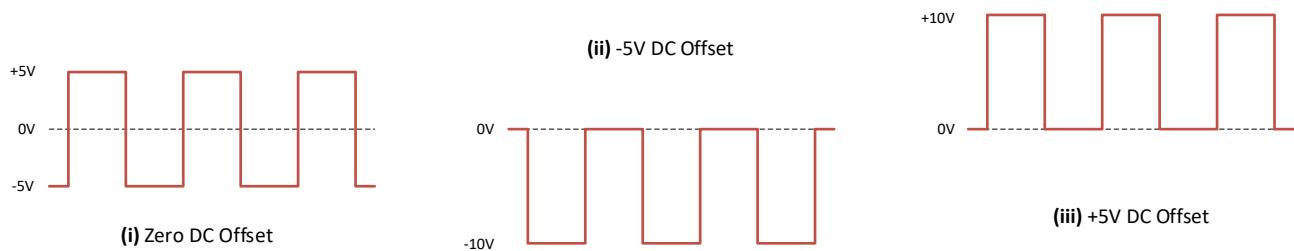

Figure 6.0: Square-wave waveforms showing effect of adding DC-Offset
2. Turn ON the Function Generator. For the input AC voltage source **V_s** of the circuit, set the Function Generator to a **Square-Wave** signal with the peak-voltage amplitude, **V_P = 5V** (that is, $\pm 5V$ around **0V** reference) as shown in **Figure 6.0 (i)**. Set the frequency, **f = 1 Hz**. **FG: Press Amplitude = 5 V_{pp}**
5. Use the DC-OFFSET control on the Function Generator to apply a “-5V” DC-Offset to the waveform so that it oscillates between **0V** and **-10V** as shown in **Figure 6.0 (ii)**. Observe the blinking of the LED(s) **on** and **off** once per second (**1Hz**). Record your observations in **Table 5.0** of the status and relative brightness of each LED. (*On the Function Generator, press: Offset --> -2.5 --> V*)
6. Use the DC-OFFSET control on the Function Generator to apply a “+5V” DC-Offset to the waveform so that it oscillates between **0V** and **+10V** as shown in **Figure 6.0 (iii)**. Observe the blinking of the LED(s) **on** and **off** once per second (**1Hz**). Record your observations in **Table 5.0** of the status and relative brightness of each LED. (*On the Function Generator, press: Offset --> 2.5 --> V*)
7. Keeping the same setting as in (6), **gradually increase the frequency** on the Function Generator to find the frequency at which the LED appears to stop blinking. The human eye will eventually be unable to perceive the flickering. Record this frequency in **Table 5.0**.